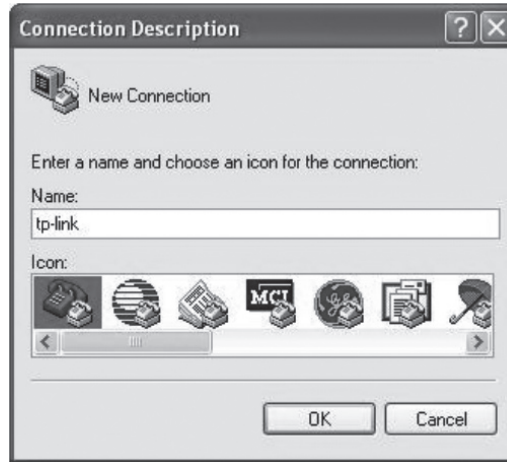

Figure 5-5 Connection Description
3. The Connection Description Window will prompt as Figure 5-5. Enter a name into the Name field and click OK.